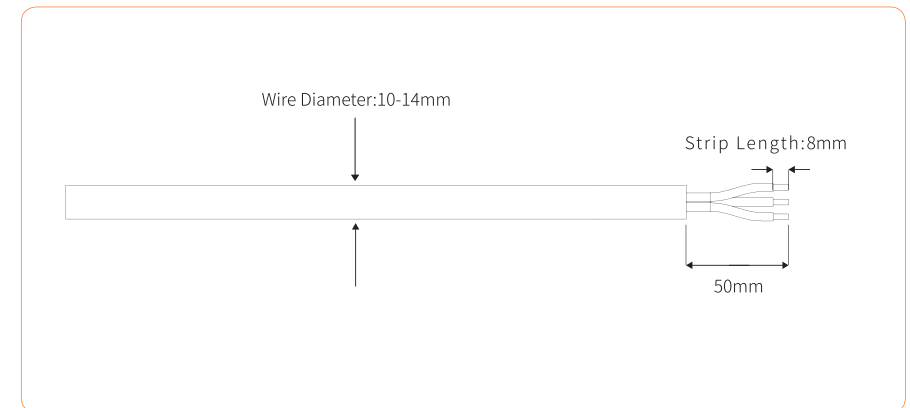

Figure 4-16
② According to the table above, select an appropriate cable, peel the insulation sleeve of AC cable off for 50mm, and peel off the end of L /PE / N wires for 8mm, as shown in Figure 4-16: